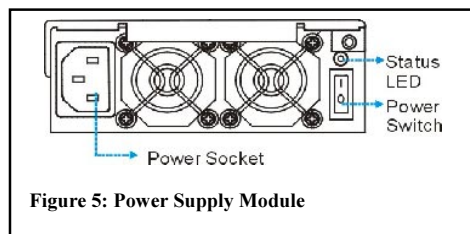

**Figure 4: Drive Tray Key-Lock Rotation**
- Close the front flap on the drive tray. Make sure the front flap is closed properly to ensure that the SATA connector at the back of the drive tray is firmly connected to the corresponding connector on the mid-plane board. If the front flap is not closed properly, then the connection between the HDD and the subsystem will not be secure. To lock the flap in place, turn the key-lock until the groove on its face is in a vertical orientation. (See *Figure 4*)